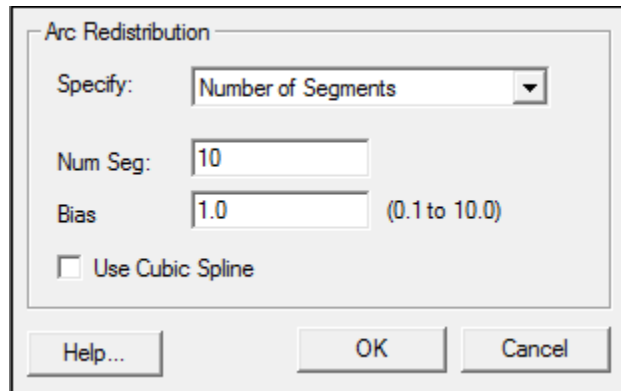

Figure 5
2. Specify the arc redistribution according to *Number of Segments*, and set the Num Seg: as 10. Leave the bias as 1.0 as shown in Figure 5 and click OK.